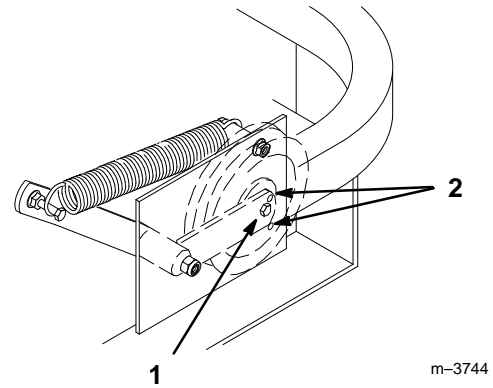

Figure 49
5. Check belt tension. The center bolt of spring loaded idler must be between the two alignment holes in left support plate (Fig 49).
7. Check belt tension again. The center bolt of spring loaded idler must be between the two alignment holes in left support plate (Fig 49). Adjust, if necessary, and tighten all hardware securely.